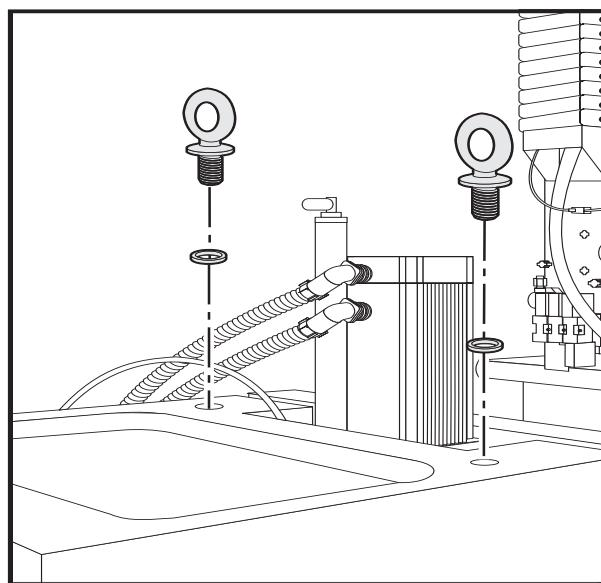

Fig. 1-4 VF-3/VF-4 eyebolt locations.
4. Install (2) 3/4-10 x 1 1/4" eyebolts and (2) 3/4' hard washers to the column casting as shown in figure 1-4. Tighten securely.